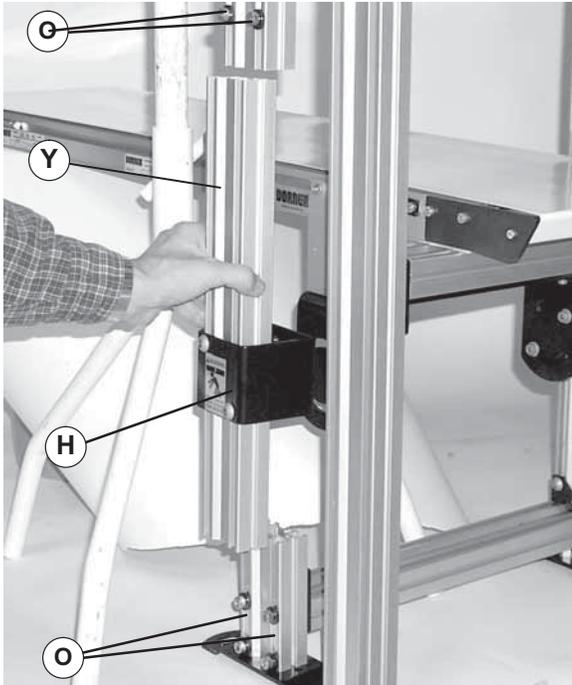

Figure 16
4. Slide four tube joining bar assemblies (Figure 16, item O) out of the way. Remove stand section (Y) and leg support bracket (H) from multi tier stand.